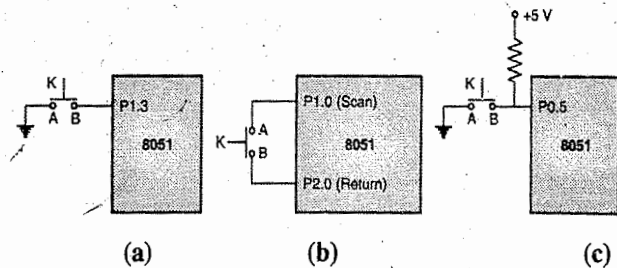

Fig. 2.3.1 : Interfacing push button switch to 8051
- Fig. 2.3.1(a) shows a single push button switch connected to P1.3 of microcontroller 8051. If key is not pressed, there is no connection between
- The push button can also be connected as shown in Fig. 2.3.1(b) such that one line is the input line (Return line) and the other is output line (scan line). Let P1.0 be scan line and P2.0 is
- The push button can also be connected to port 0 as shown in Fig. 2.3.1(c). Port 0 is an open drain port. Hence, we connect an external 10 KΩ resistor at point B.